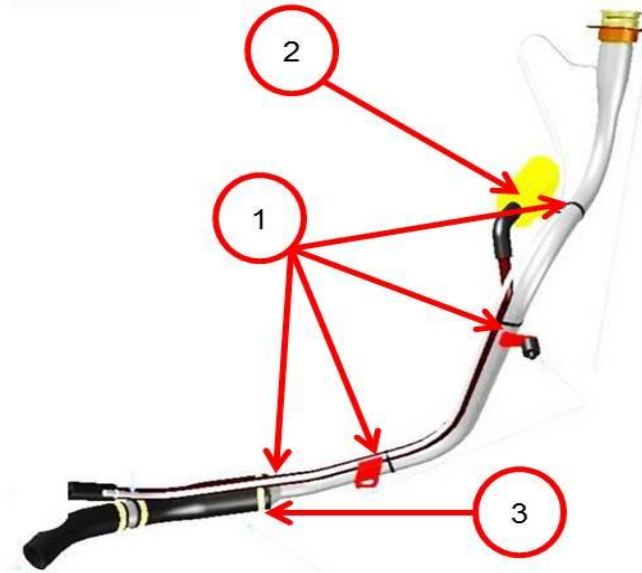

Fig. 1 Fuel Filler Tube
1. **The new fuel filler tube (p/n CNNZX390AA) has an evaporative emission hose and filter assembly attached to the filler neck (Fig. 1) that will not be used in this repair. Cut the four tie straps that secure the evaporative filter and hose to the new fuel filler tube. Remove and discard the evaporative filter and hose.**
2. On new fuel filler tube verify and write down existing torque (Fig. 1).